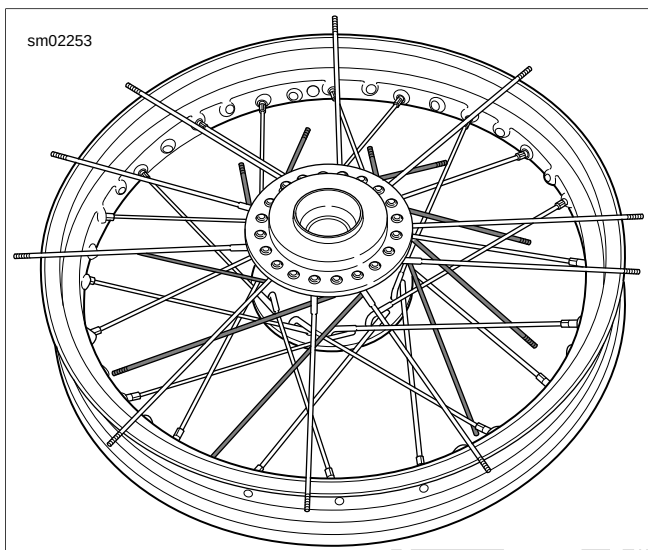

Figure 2-39. Setting Top Flange Inner Spokes
16. See Figure 2-39. Point all the top flange inner spokes (long head) clockwise one at a time leaving the outer spokes (short head) resting on the rim.